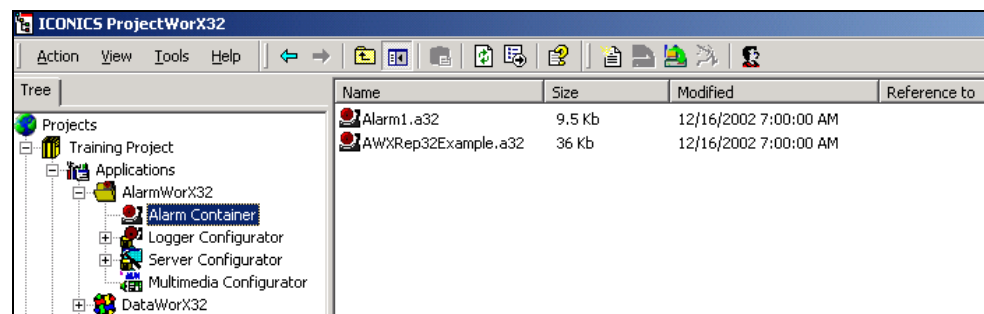

Figure 4.11
4. The file appears in the component tree (in this case Alarm Container) and is displayed in the right-hand pane of the ProjectWorX32 console, as shown in **Figure 4.11**.